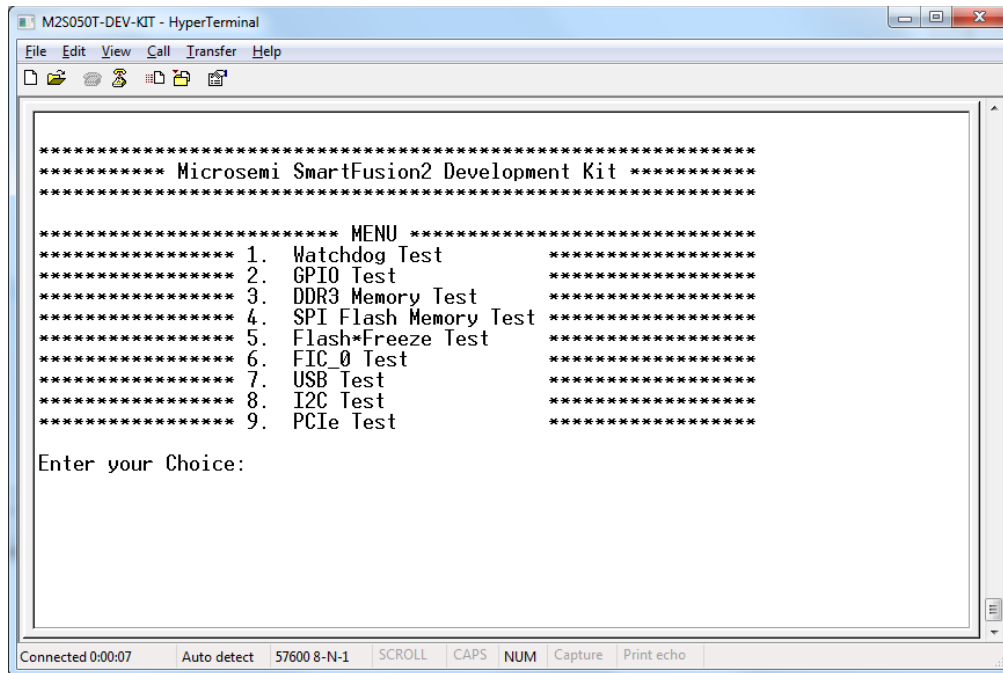

Figure 3. Test Menu
1. Press **Reset Switch SW9** on the SmartFusion2 Development Kit to reset the board. A message is displayed on HyperTerminal, as shown in Figure 3.